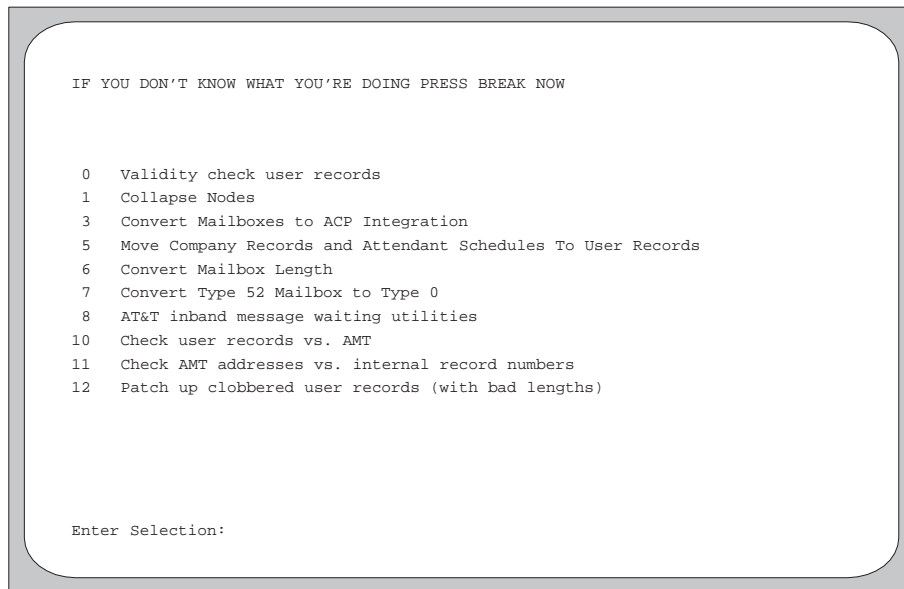

Figure A-35. Reformat Menu (Aria 2.0).
2. Type ***reformat*** and press ***Enter*** to access the reformat menu. Reformat menu options appear, as shown in Figure A-35 for Aria 2.0. Aria 1.2 also offers an option 13, Convert ICMB from COS to MB. The options are described in the following sections.